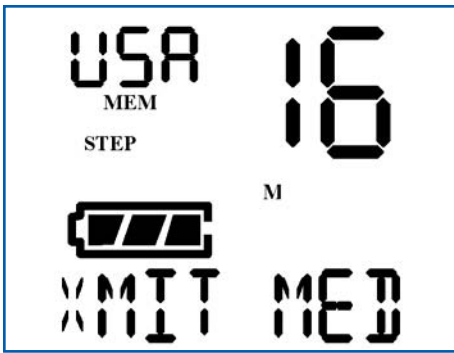

Fig. 9b: Medium Power Display
- When Medium Power is selected, the Radio Status Display will show **XMIT MED** for three seconds and the **M** indicator will show. (Fig. 9b)